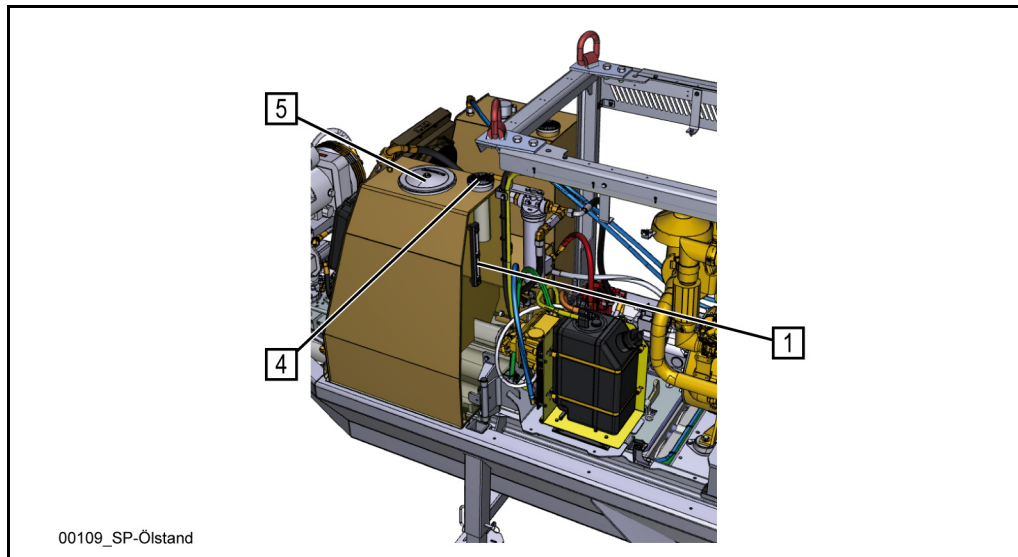
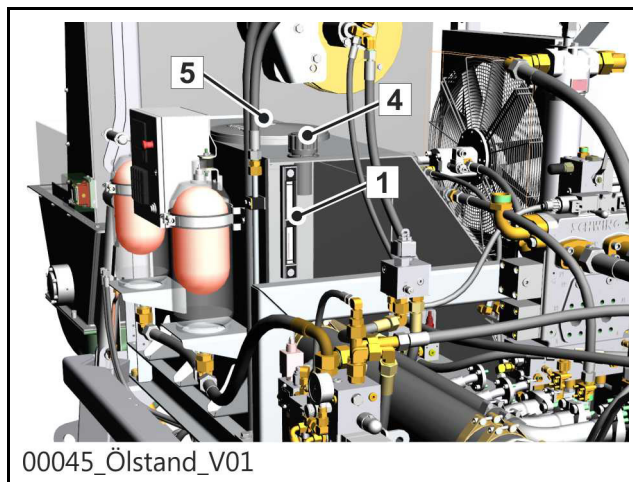

Fig. 146 SP 1800
Fig. 147 SP 3800
The reservoir for the hydraulic oil is equipped with an oil level indicator (1) (**Fig. 146**) / (**Fig. 147**).
Caption (Fig. 146) / (Fig. 147)
When the oil is cold, the oil level must be shown in the middle of the oil level indicator (**Fig. 146**) / (**Fig. 147**) SP 3800. If present, ensure that the adhesive label is in good condition and replace it as required.
If necessary, top up the hydraulic oil via the filler cap (4) (**Fig. 146**) / (**Fig. 147**).
- Clean the area surrounding the cleaning cover and remove the cleaning cover (5) (Fig. 146) / (Fig. 147).